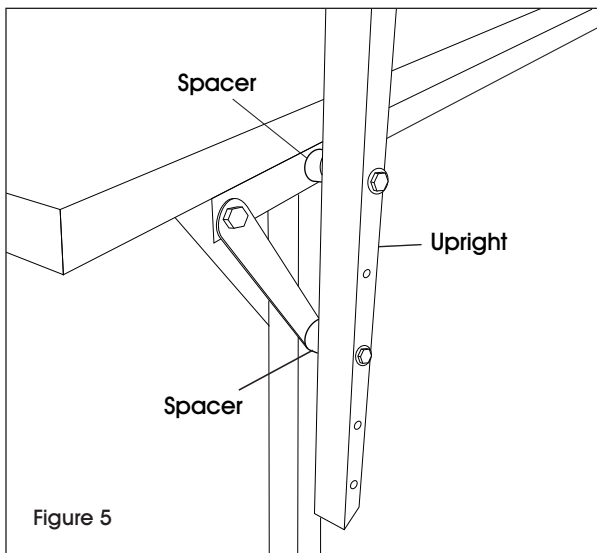

Figure 5
- Attach the right and left shelf uprights by first removing the 4" bolts from back leg assemblies. Add spacers in between the leg assemblies and shelf uprights, and finally re-insert bolts through the uprights, spacers and leg assemblies. (See Figure 5) The shelving can be positioned at one of the three heights by utilizing the first and third, second and fourth, or third and fifth drilled holes on the shelf upright.